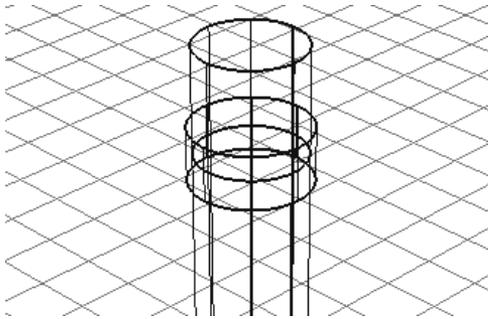

Figure 2-118 Model after creating the base of the eraser
2. Enter **0, 0, 1000** in the promptline and press ENTER; the base of the eraser is created, as shown in Figure 2-118.